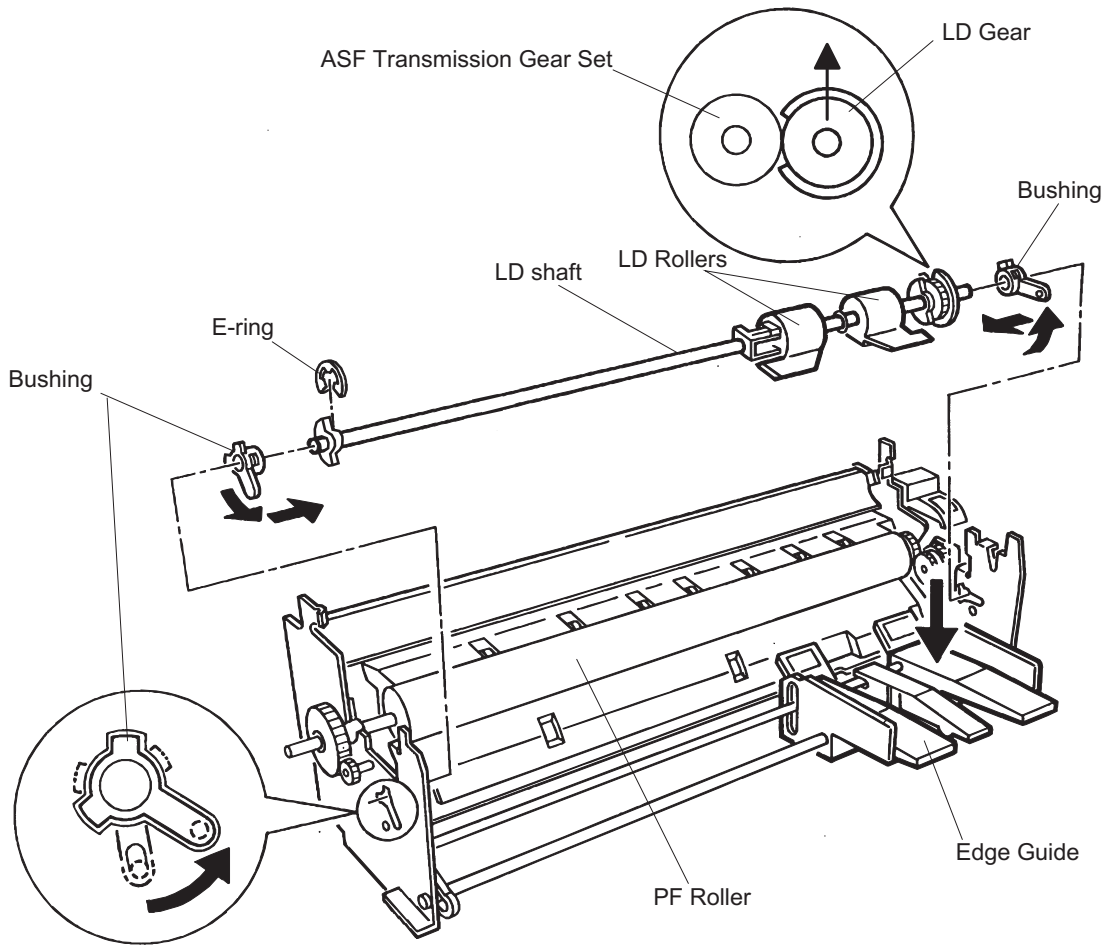

Figure 3-32. LD shaft Removal
- Engage the LD gear and the gear (29) in the ASF gear set as shown in Figure 3-32.